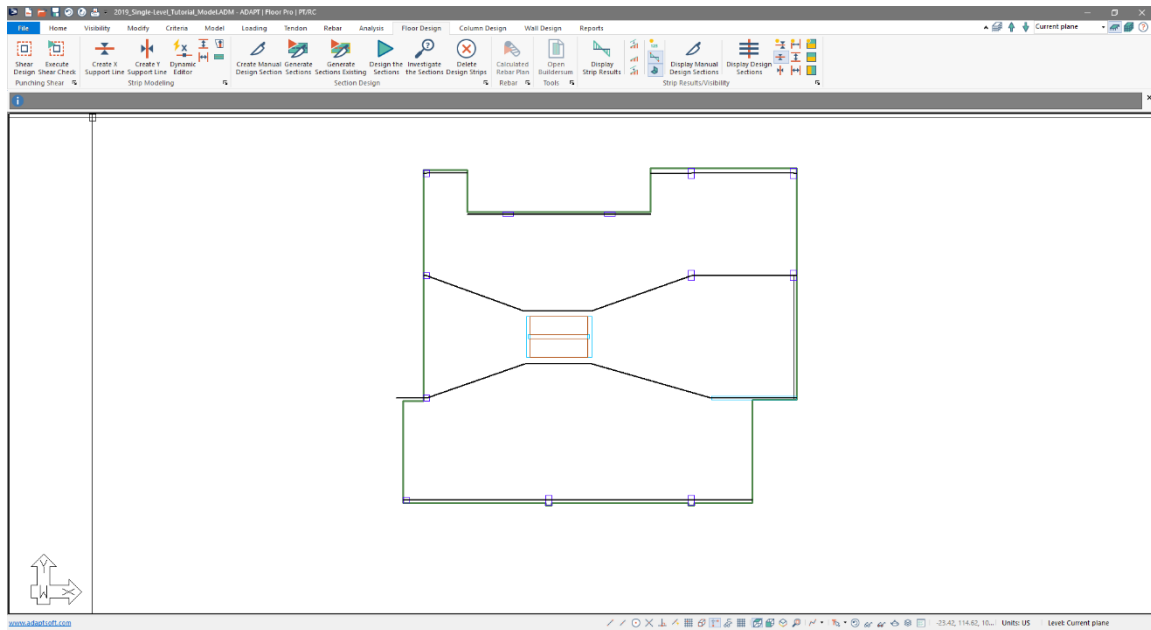

Figure 8-10
- Go to *Floor Design* → *Strip Results/Visibility* and click on the *Display Design Section*  icon. The user should now see the plan view of the first level with the X-direction support lines visible. Design sections and tributary regions for the support lines have been turned off. The user's screen should be similar to that of **FIGURE 8-10**.